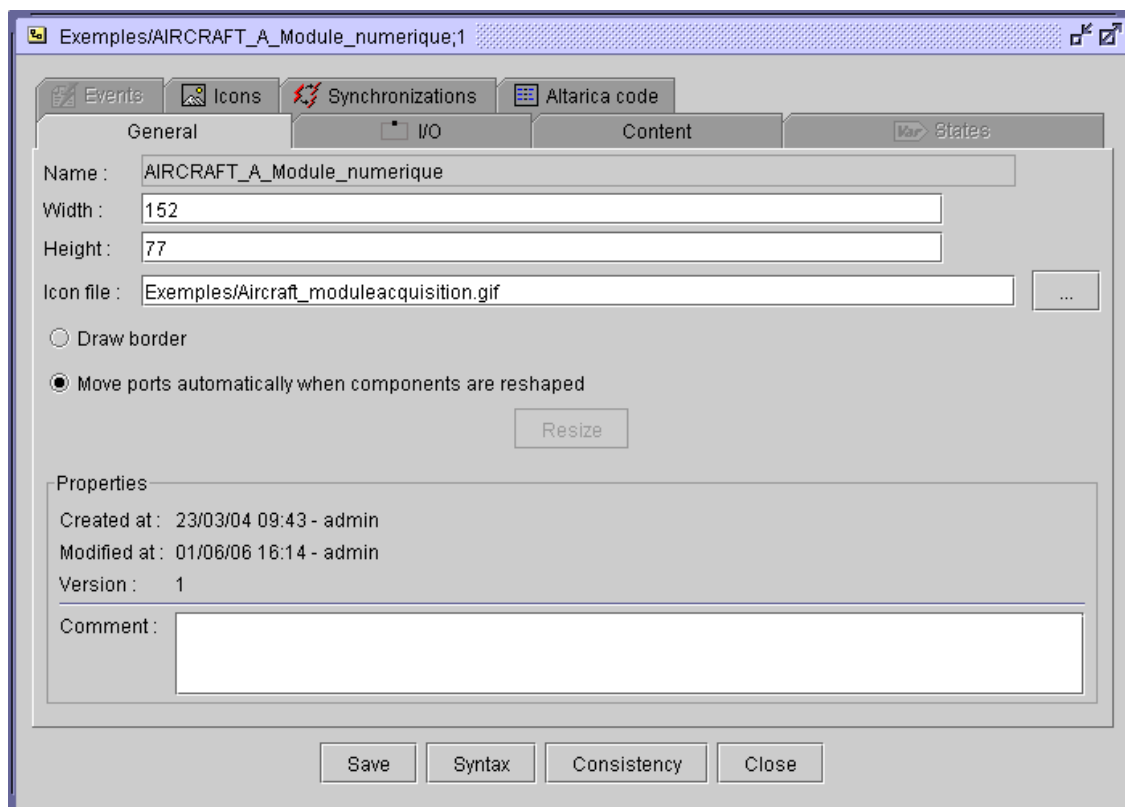

Figure 101 : Equipment - General tab
- ◆ The equipment editor (Figure 101) is open
The **General** tab (Figure 101) contains the following information: